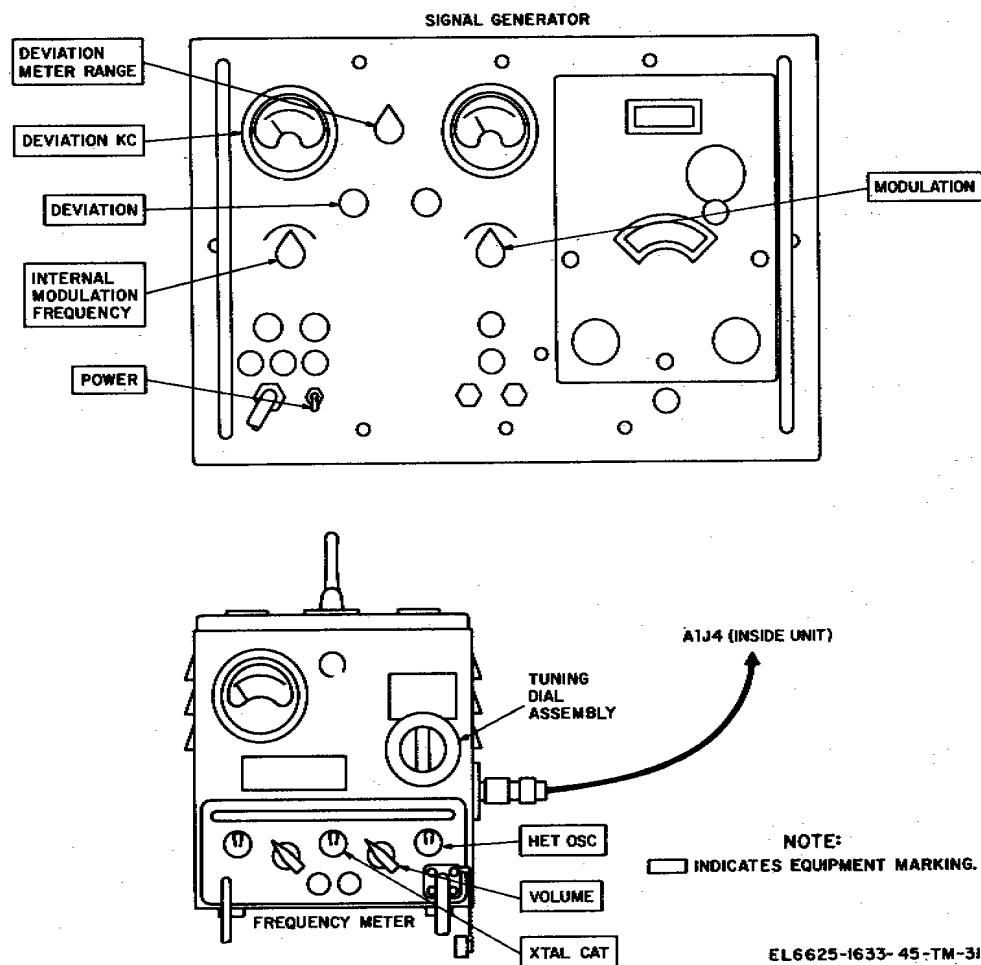

Figure 5-3. Internal modulation frequency accuracy, test setup diagram.
- Connect the equipment as shown in figure 5-3.